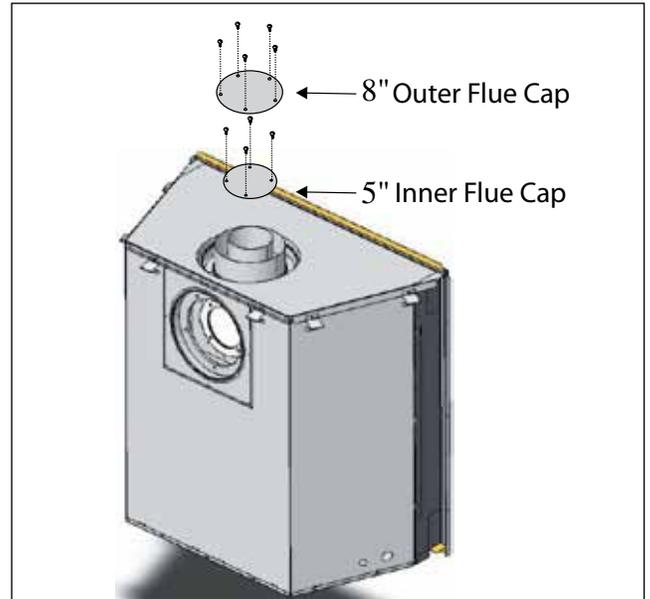

Figure 8a. Flue cap installation for Rear Vented fireplace.
1. Install the " inner flue cap on the top flue outlet and secure the cap in place with five screws, as shown in figure 8a.
2. Install the 8" outer flue cap on the top flue outlet, and secure it with five screws, as shown in figure 8a.